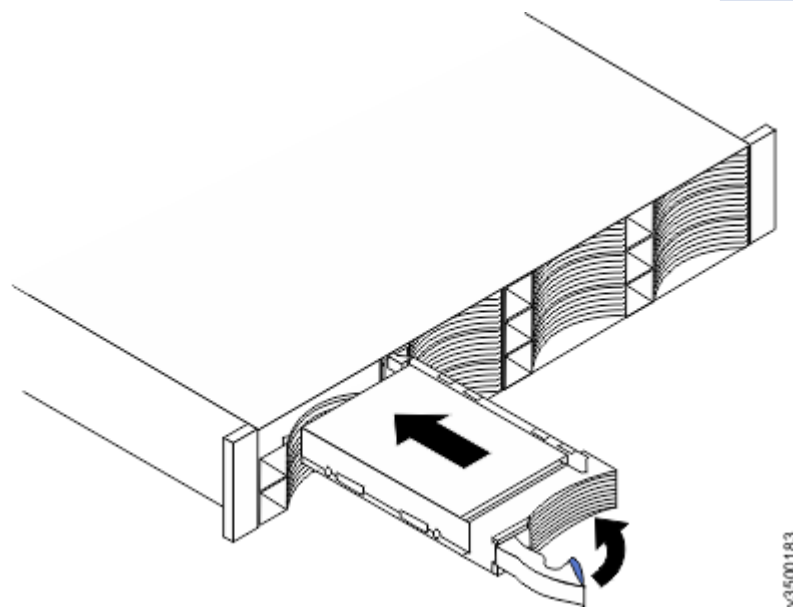

Figure 101. Installing and locking a 3.5-inch drive into its slot
13. Align the drive assembly with the guide rails in the bay (see Figure 101 on page 158).